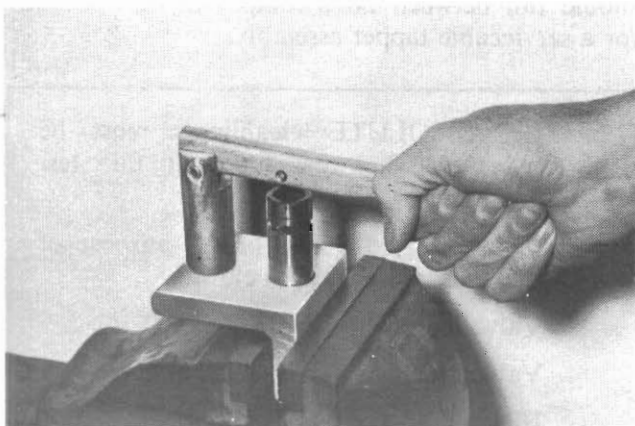

Fig. 13 - Testing tappet using Tool E9C40C
- (1) Fill a pan with clean kerosene.
- (2) Remove cap from plunger and plunger from tappet body.
- (3) Fill tappet body with kerosene and install plunger.
- (4) Unseat check valve with a brass rod to permit complete installation of plunger. Replace cap.
(5) Place tappet upright in Tool E9C40C as shown in Fig. 13.
(6) Engage push rod of tool with top of tappet plunger. Test leak down by pressing on the tool arm. If plunger collapses instantly as pressure is applied, disassemble tappet, clean and retest (see Fig. 13).
(7) If tappet still does not operate satisfactorily after cleaning, install a new tappet assembly.